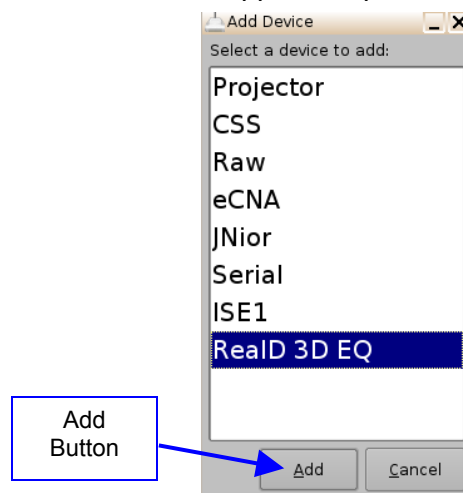

Figure 106: List of Available Devices
- Select the RealD 3D EQ device and click the Add button (Figure 106).